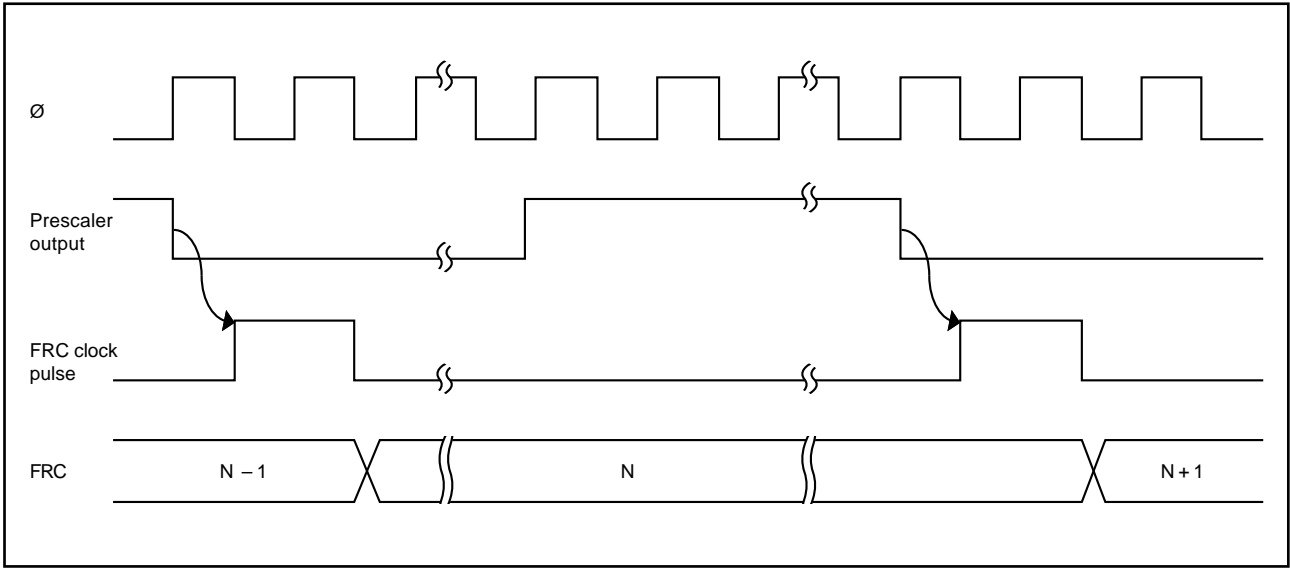

Figure 7-4. Increment Timing for Internal Clock Source
(1) Internal Clock Sources: Can be selected by the CKS1 and CKS0 bits in the TCR. Internal clock sources are created by dividing the system clock (\emptyset). Three internal clock sources are available: $\emptyset/2$, $\emptyset/8$, and $\emptyset/32$. Figure 7-4 shows the increment timing.